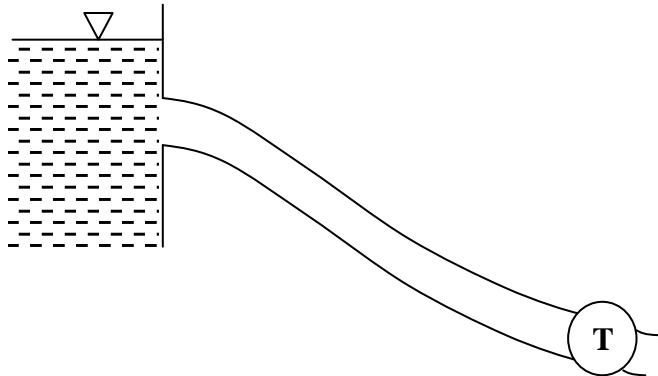

Figure 9: Turbine carries a flow / Rajah 9: Turbin yang membawa aliran
4. [a] A turbine, located 255 m below the water surface intake (See Figure 9) carries a flow of $3.5 \text{ m}^3/\text{s}$. The head loss in the pipeline leading to it is 10 m. Find the power (kW) delivered by the turbine if its efficiency is 92%.